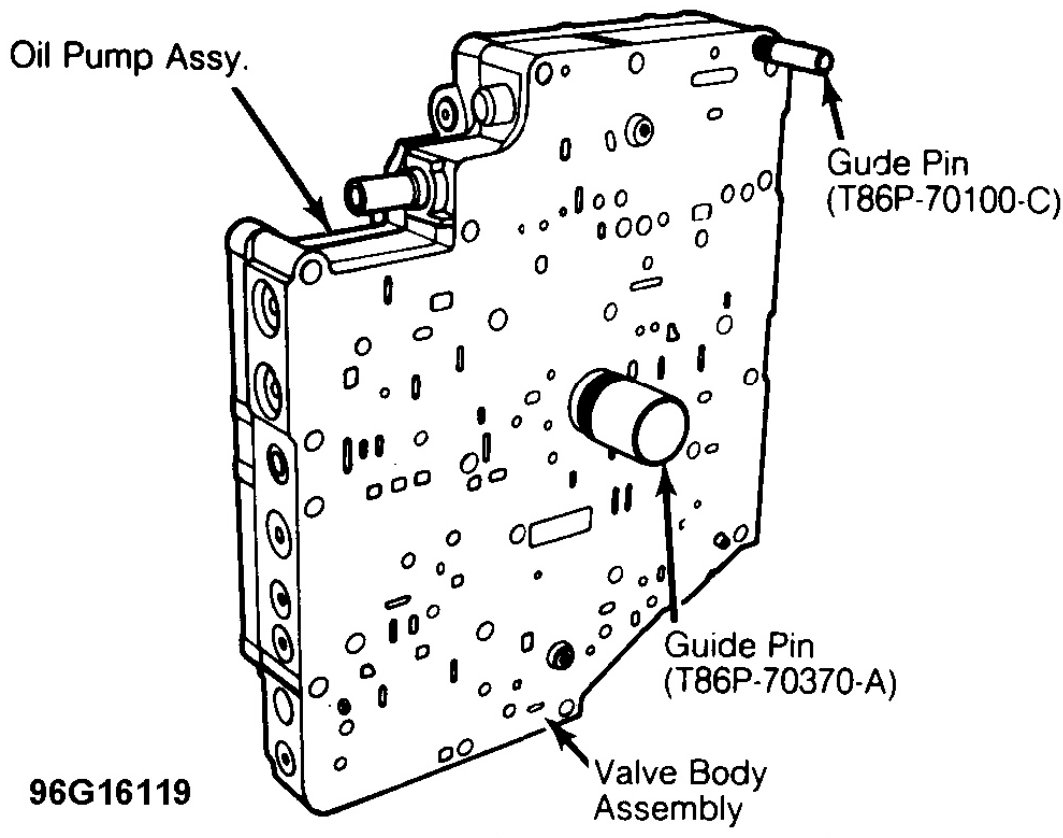

Fig. 13: Guide Pin Location
2. Position oil pump to valve body with a new gasket. Install Guide Pins (T86P-70370-A and T86P-70100-C) in valve body. See **Fig. 13** . Install 2 retaining bolts and tighten to specifications.